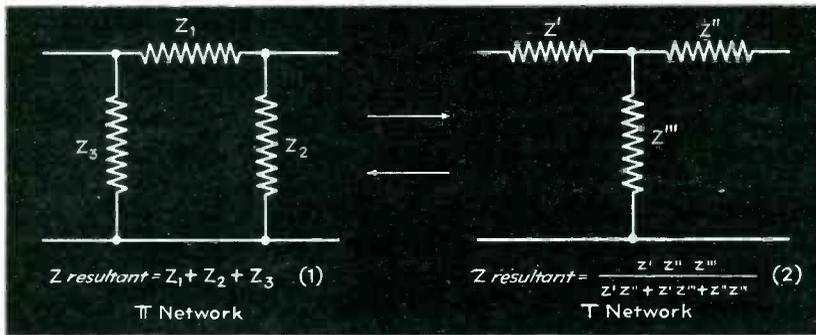

Fig. 1—The two networks with their equivalent impedances
**I**N communication work, as well as in power work, the transformation of a T network into a  $\pi$  network and vice versa is of great importance. The two networks are shown in Fig. 1 and the problem is simply to construct the equivalent T when the  $\pi$  is given or vice versa. The quickest way to perform the calculation is to use ready-made formulas. Usually students and engineers do not keep these formulas in mind, so there are two ways open; to derive the formulas or to look them up in a handbook. The latter way out usually means a considerable saving of time. The formulas can be derived by the comparison of input impedances between specified terminals with the third terminal left free or connected to one of the input terminals. Three independent equations are needed for the determination of impedance relations.